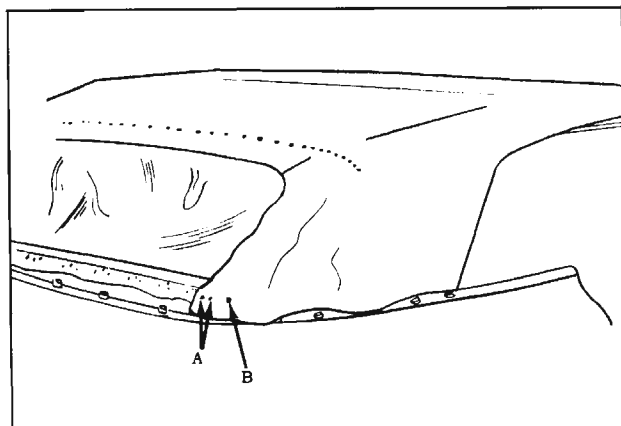

Fig. 16-131 Tacking Top Material
38. Using previously marked lines (ends of trim stick) as locating reference, tack top material to rear and rear quarter trim sticks. ("A", Fig. 16-131)